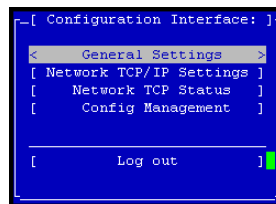

Figure 220. Configuration Interface Main Menu
1. Tab to Login and press Enter. The Configuration Interface main menu opens, shown in Figure 220.